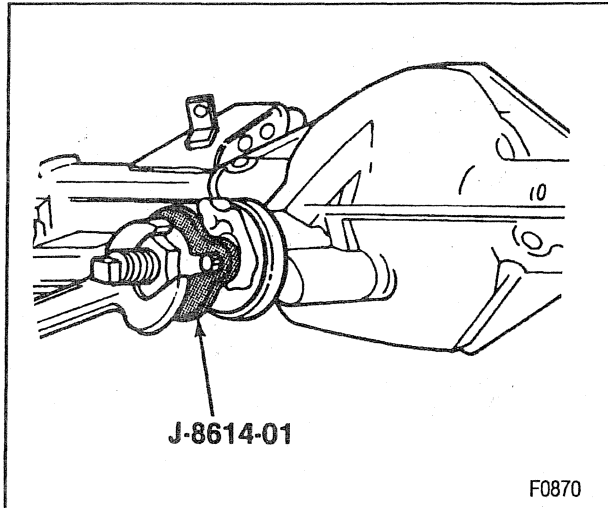

Figure 20—Installing the Pinion Flange
3. Flange onto the pinion using J 8614-01 (figure 20).